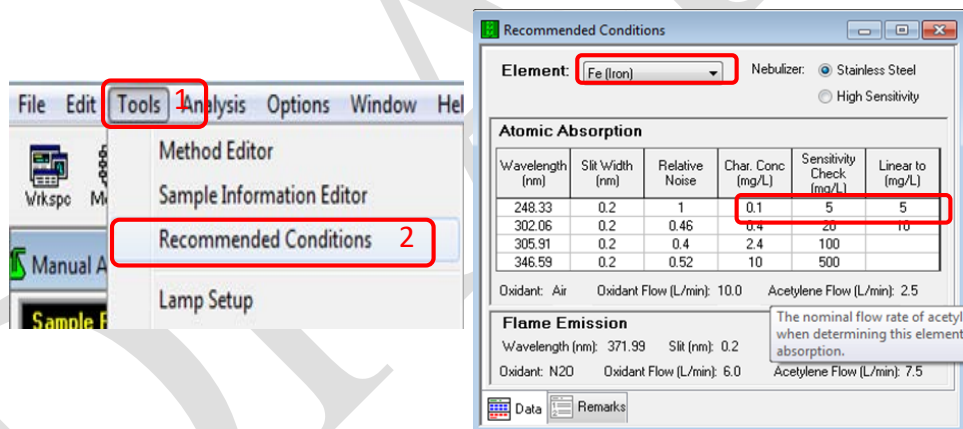

Fig. 14
3.2.1 Click on **Tools > Recommended conditions** for reference, which offers you the linearity range of different element. (fig.14).